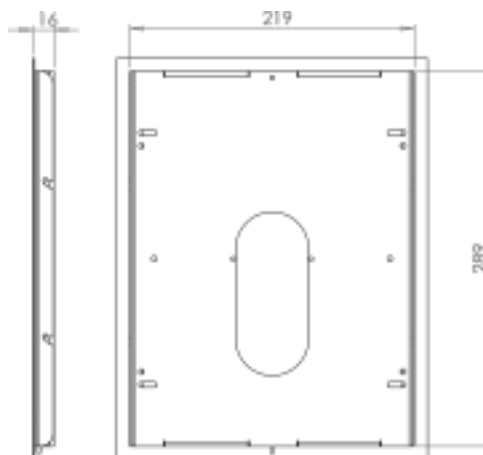

Fig. 19
- Abb. 19: Dimensions recess for TWE for Apple iPad Pro 10.5 (B x H x T): 219 x 289 x 16 mm